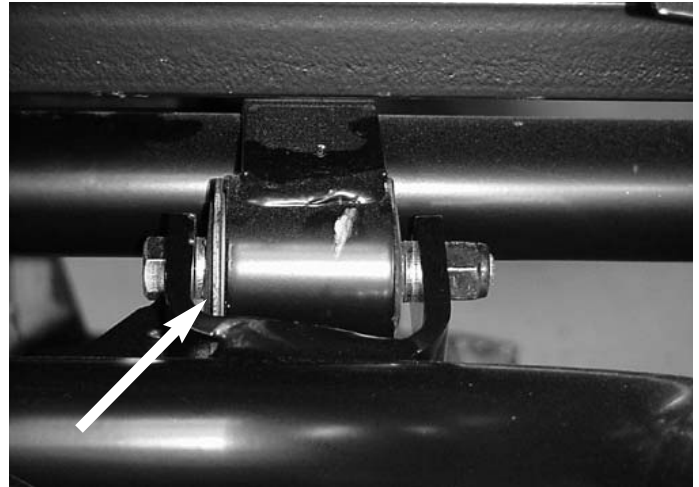

Figure 16 - Rear Fork Bushing and Bolt
8. Remove two bolts with washers from rear fork mounts. Separate fork from frame. See Figure 16.